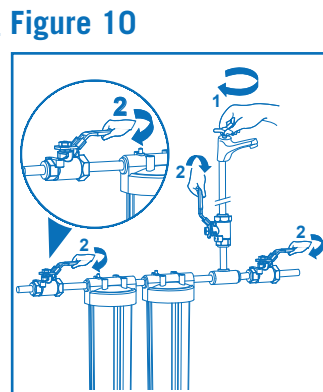
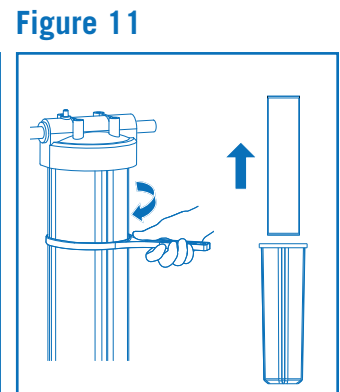
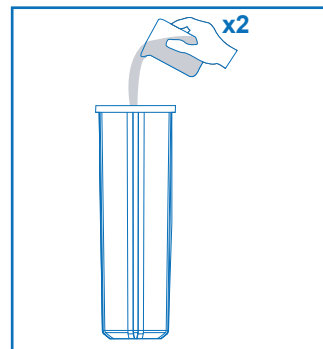

Figure 10
Figure 11
Figure 12
1. Familiarize yourself with the various shut-off valves on your system. **Figure 10**
3. Close the valves necessary to isolate the UV Prefilters (Figure 10). Remove the filter cartridge closest to the UV (Figure 11). Fill the sump with 1-2 cups of household chlorine bleach (5.25%) (Figure 12).